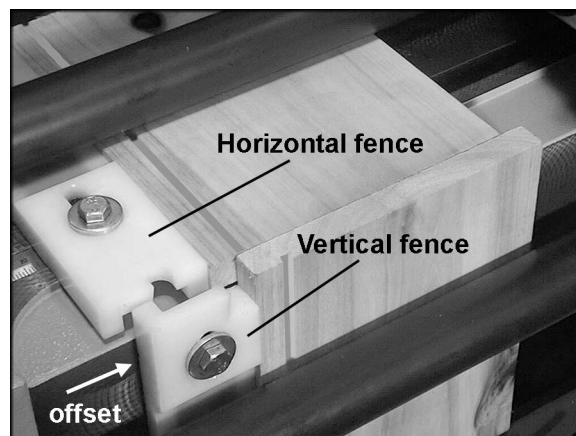

Figure 20
7. Line up the vertical fence with the horizontal fence, then offset the vertical fence by exactly half the pitch of the template. See Figure 20.
The polyethylene buffer pads (shown in Figure 20) have slots through which they are secured to the fences by screws. These buffer pads at times may need to be re-positioned; for example, if a clamping bar is adjusted for a different thickness of workpiece, the buffer pad may need to be adjusted out of the way to prevent obstructing the clamping bar.
To adjust a buffer pad, loosen the two hex cap screws (Figure 20) with a 13mm wrench. Slide the buffer pad as necessary. Retighten both hex cap screws when finished.